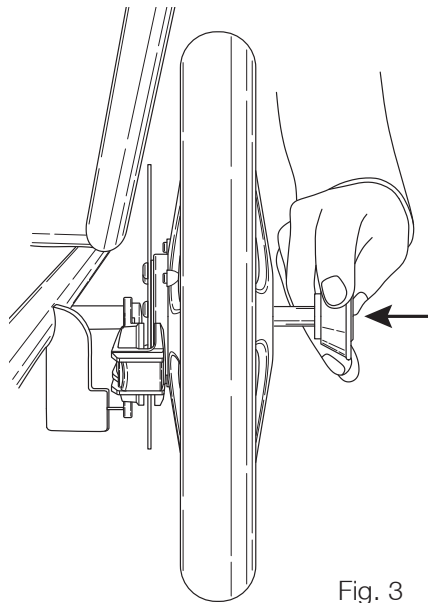

Fig. 3
4. Press and hold the black button and push the QR axle into the axle tube until it locks firmly into position. (Fig. 3)